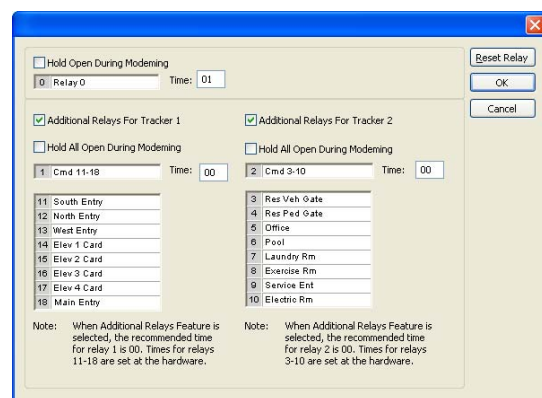

Figure 19
When Tracker™ boards are used to expand the access control system, relays 1 and 2 are used as Tracker™ Command (Cmd) relays with Relay 2 commanding Tracker™ boards 1-8 (system relays 3-10) and Relay 1 commanding Tracker™ boards 9-16 (system relays 11-18). Refer to Figure 19.
3. Click "Additional Relays For Tracker 1" button to enable system relays 11-18 (Fig 19).
In the example below, four time zones have been created. Referring back to Figure 19 on page 25, Relay 3 has been labeled Res Veh Gate (Resident Vehicle Gate). Time zones 1 and 2 have been applied to Relay 3, which means that on Monday through Friday, the resident vehicular gate will automatically open at 6:00 AM and remain open until 8:00 PM. On Saturday and Sunday, this gate will open at 8:00 AM and remain open until 8:00 PM.
Again refereeing back to Figure 19 on page 25, Relay 5 has been labeled Office. Time zone 3 has been applied to Relay 5, which means that the office door will unlock at 9:00 AM and remain unlocked until 5:00 PM Monday through Friday. This door will remain locked on the weekends.